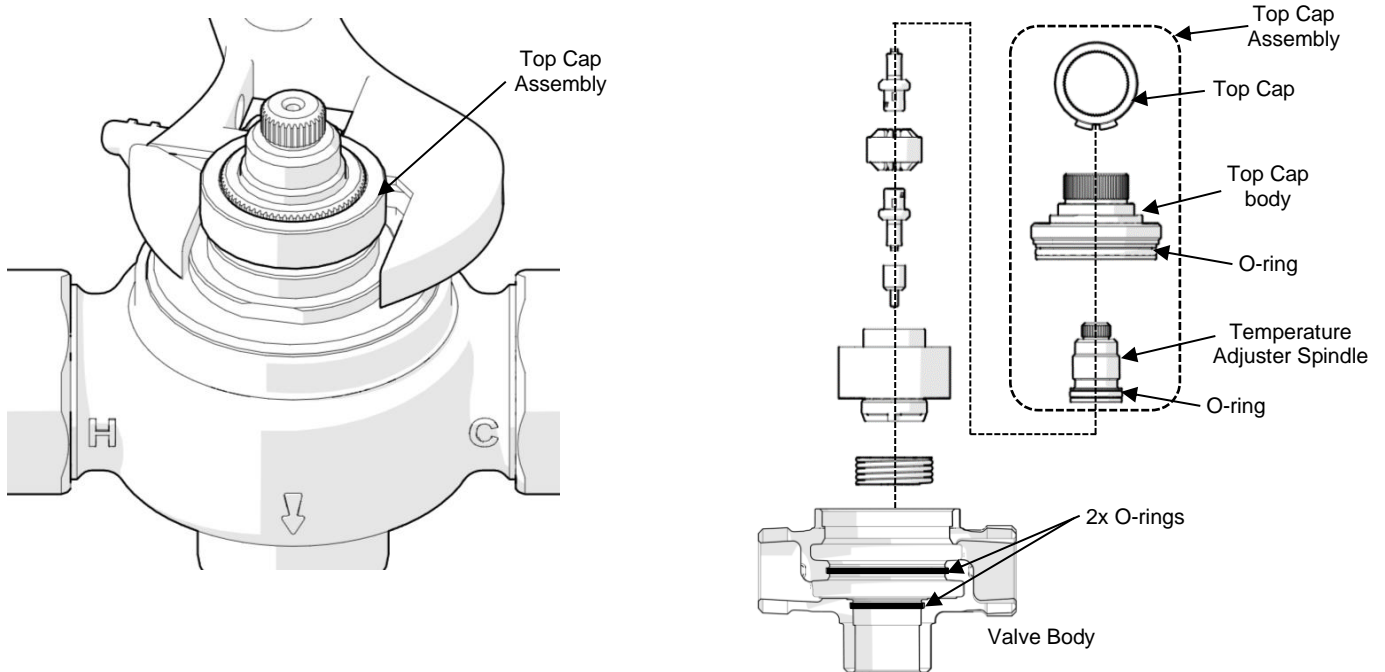

Figure 14
- a. Remove the top cap assembly by using a suitable spanner on the wrenching flats (Figure 14). Twist the temperature adjuster spindle clockwise to wind it out of the top cap assembly.
- c. Replace O-rings as shown in Figure 14 – 4x O-rings (2x in Valve body, 1x in temperature adjuster spindle and 1x in top cap body).